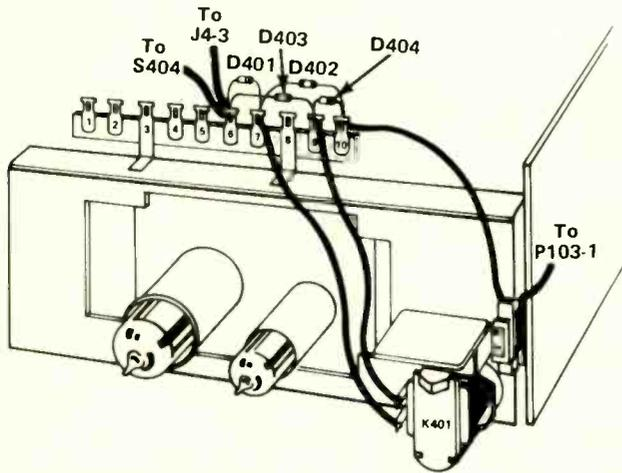
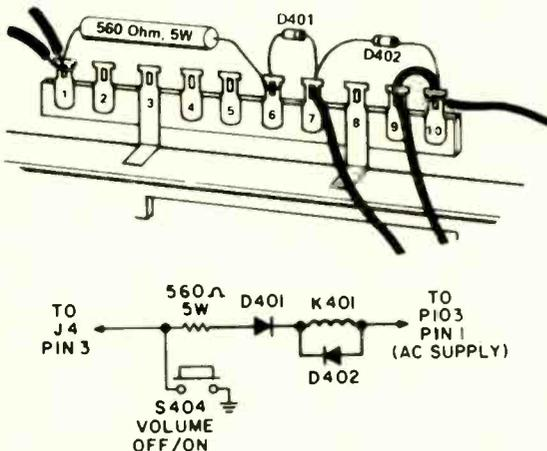

Fig. 1—Tuner assembly removed from cabinet to show component location of early production circuit.
Fig. 2—Circuit and component location after field modification.
Early production of the T950 chassis equipped with the 704059 Remote Receiver has the Volume ON/OFF relay, K401, connected in the rectifier bridge arrangement. The relay, Part No. 160418-6, and the bridge connected rectifiers, Part No. 530082-4, are physically located on the tuner mounting bracket as shown in the illustration (Fig. 1).
In current production units, the relay circuit has been modified, as shown schematically in the diagram, to provide greater reliability. If it becomes necessary to replace a stepping relay connected in an early production circuit, it is recommended that at the same time the circuit be modified to the later production circuit to reduce the chance of future relay failure. The steps for the field modification are as follows: Fig. 1 illustrates the original parts location
and Fig. 2 illustrates the parts location for the field modification. The terminals of the terminal strip have been numbered sequentially, 1 through 10, with terminal 1 nearest
- Remove the discard diodes D403 and D404 (Fig. 1) which are installed between terminals 6 and 9, and between 9 and 10.
- Remove the two wires connected to terminal 6 (Fig. 1) and reconnect them to terminal 1 (Fig. 2).
- Connect an insulated jumper wire between terminals 9 and 10 (Fig. 2).
- Install a 560Ω, 5w resistor between terminals 1 and 6 (Fig. 2).
Electrically, the modified circuit should be as shown in the partial schematic in Fig. 2.